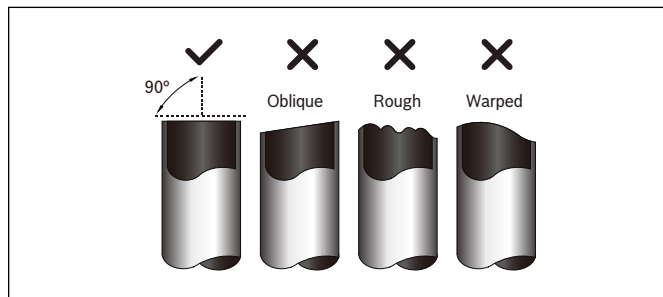

Figure 25
3. Make sure that the pipe is cut at a perfect 90° angle. Refer to Fig.25 for cut examples.